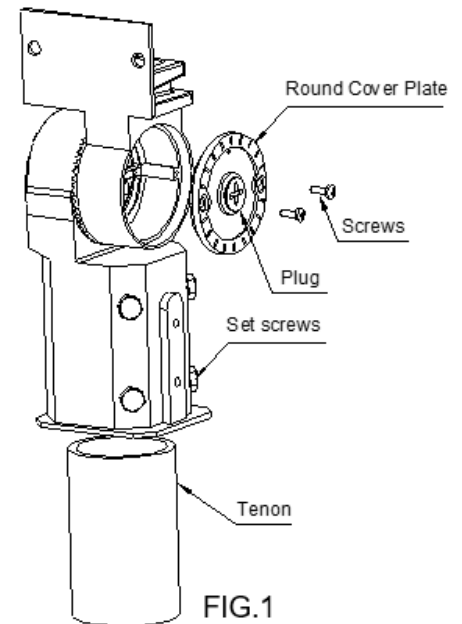
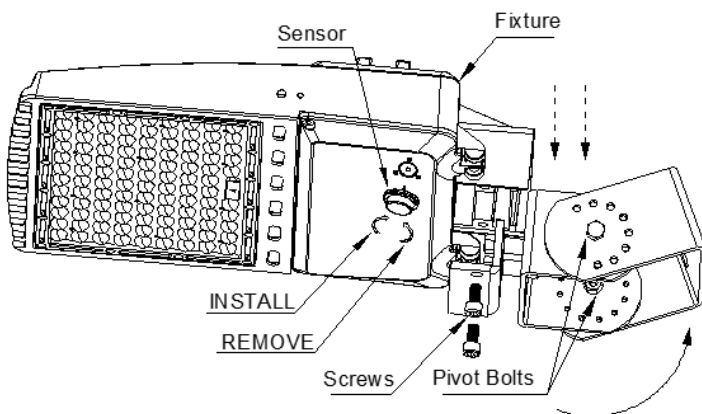

FIG.1
FIG.2
Universal voltage driver permits operation at 120V through 277V, 50/60Hz except fixtures factory ordered with a (PC). Follow wiring directions as in Fig. 1.
1. **SLIP FITTER MOUNTING:** Follow mounting directions as in Fig. 1
- a. The slip fitter mounting fits a 2 3/8" O.D. tenon. Place the slip fitter over the tenon and secure the fixture with the set screws (2) on the side of the slip fitter.
2. **TRUNNION MOUNTING:** Follow mounting directions as in Fig. 2